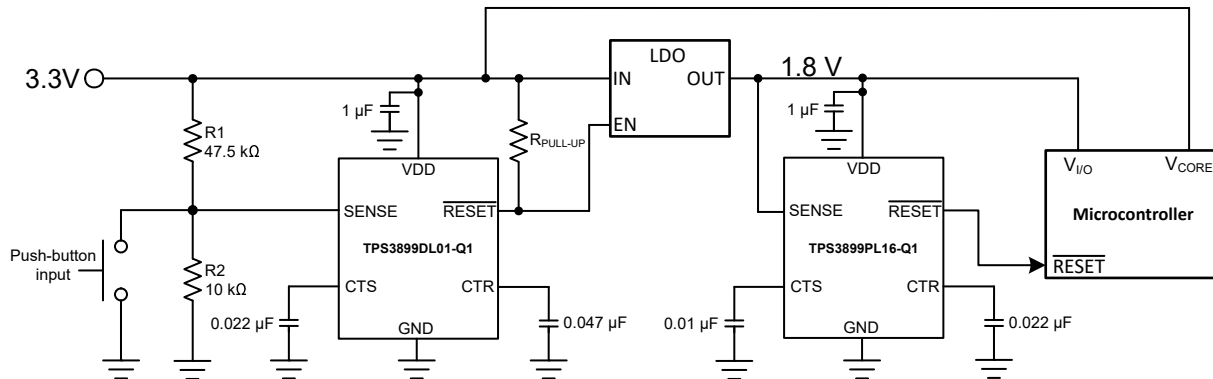

Figure 8-1. TPS3899-Q1 Voltage Rail Monitor and Power-Up Sequencer Design Block Diagram
A typical application for the TPS3899-Q1 is voltage rail monitoring and power-up sequencing as shown in Figure 8-1. The TPS3899-Q1 can be used to monitor any rail above 0.8V. In this design application, two TPS3899-Q1 devices monitor two separate voltage rails and sequences the rails upon power-up. The TPS3899DL01-Q1 is used to monitor the 3.3V main power rail and the TPS3899PL16-Q1 is used to monitor the 1.8V rail provided by the LDO for other system peripherals. The RESET output of the TPS3899DL01-Q1 is connected to the enable (EN) input of the LDO with an external pull-up resistor  $R_{PULL-UP}$  to the 3.3V power rail. The RESET output of the TPS3899PL16-Q1 is connected to the (RESET) input of the microcontroller. A reset event is initiated on either voltage supervisor when the VDD voltage is less than  $V_{IT-}$  falling threshold voltage. For a system reset event, a push-button input is placed at the SENSE pin of the TPS3899DL01-Q1.